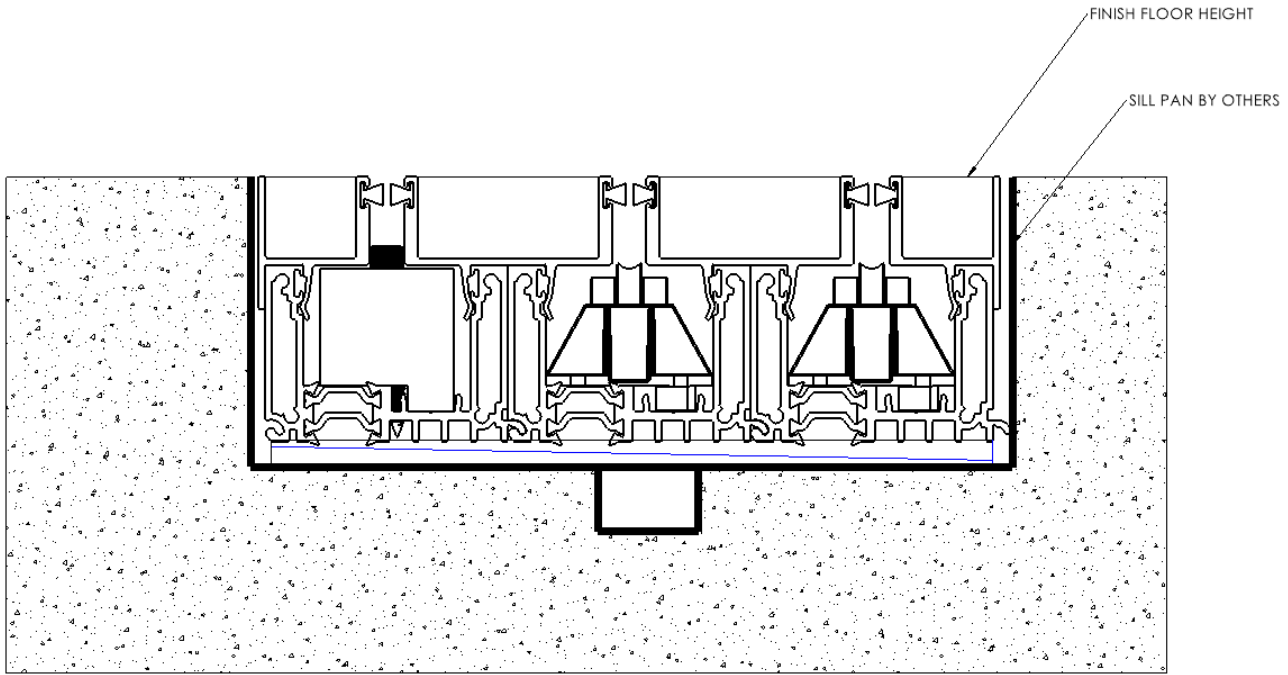
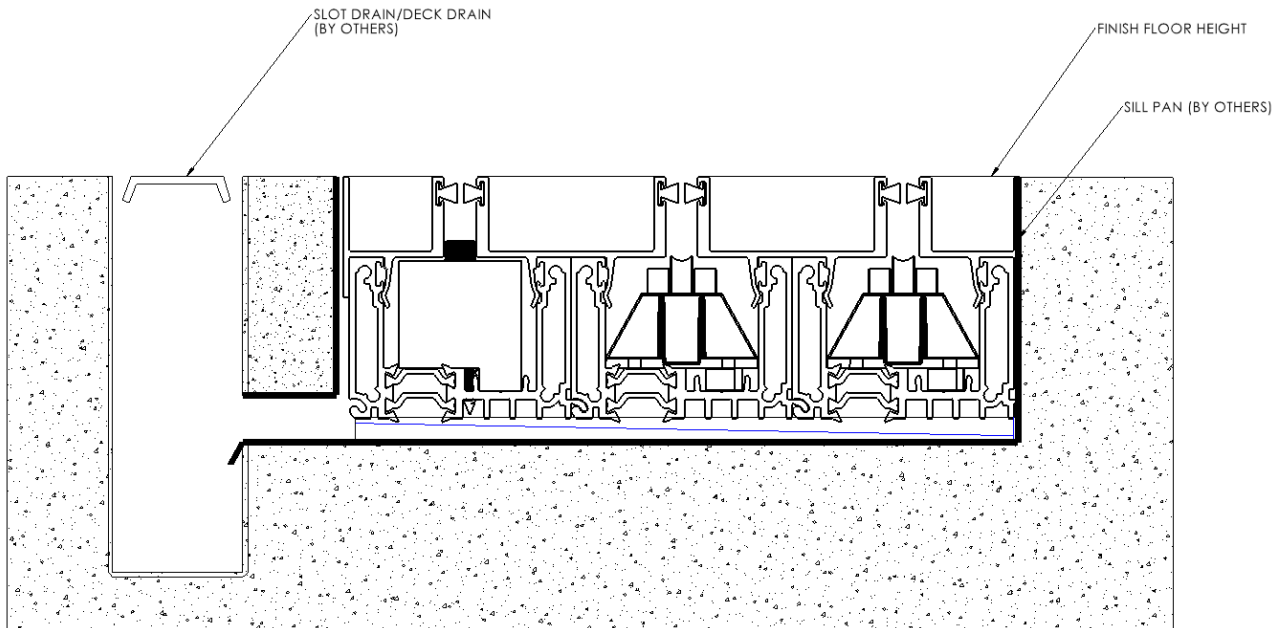

Figure 6
Figure 7
- Front Weep with pan and drain by others (See **Figure 6**)
- Front weep with deck drain and pan by others (See **Figure 7**)
- 9. Front Weep Sills** - Sills that have a weep slot located on the bottom surface 6" from each end and 6" from each stagger location will allow water to drain out the bottom of the sill directly into a water management system supplied by others, such as a sill pan or equivalent. See Figure 6. If a slot drain or similar system is used, the door sill pan can be drained into the slot drain. Ensure that the slot drain bottom is adequately below the sill pan to ensure water only flow away from the sill. See **Figure 7**. Skip to step 10.